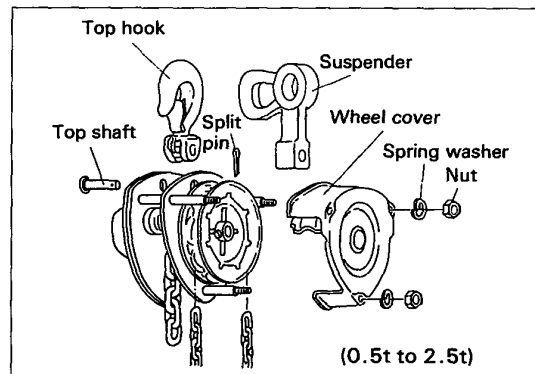

Fig. 1
- 1) For 0.5 to 2.5 ton capacity (Refer to Fig. 1)